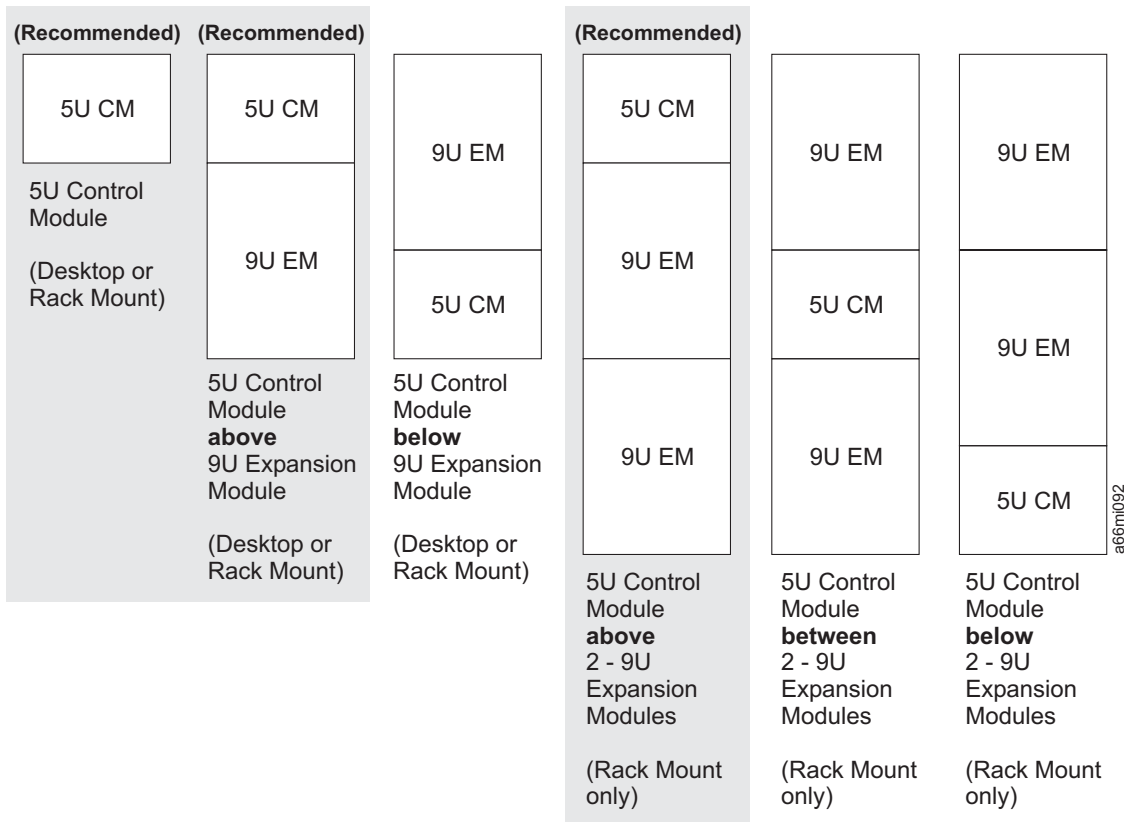

Figure 3-12. Library configurations
2. Refer to Figure 3-12 on page 3-14 and determine which library module will be installed first (on the bottom).
Refer to Figure 3-12 on page 3-14 and select one of the possible configurations for your library installation.